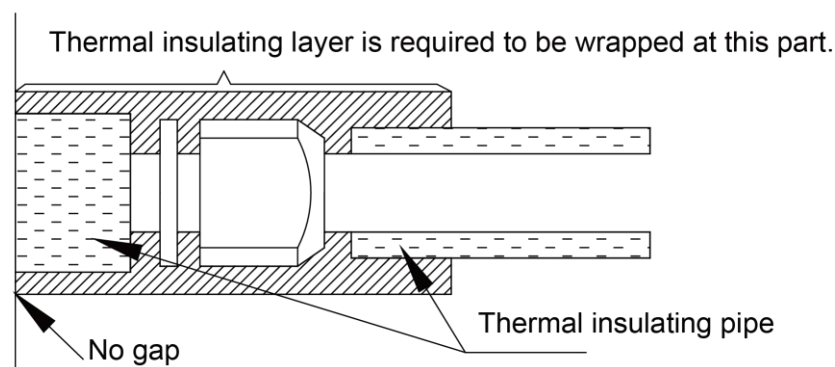

Fig.21
- 4) Joints of indoor and outdoor unit should be wrapped with insulating material and leave no gap between pipe and wall. See Fig.21.